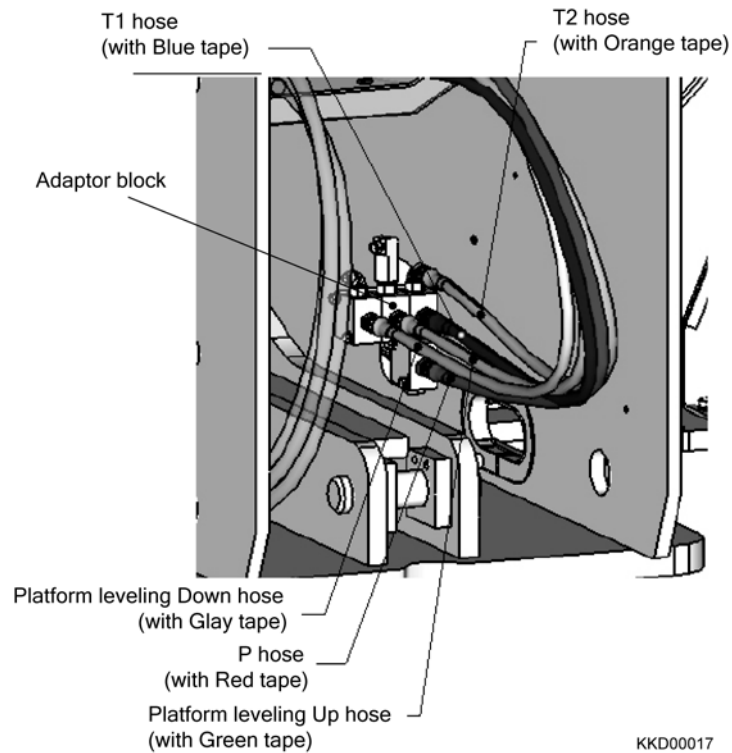
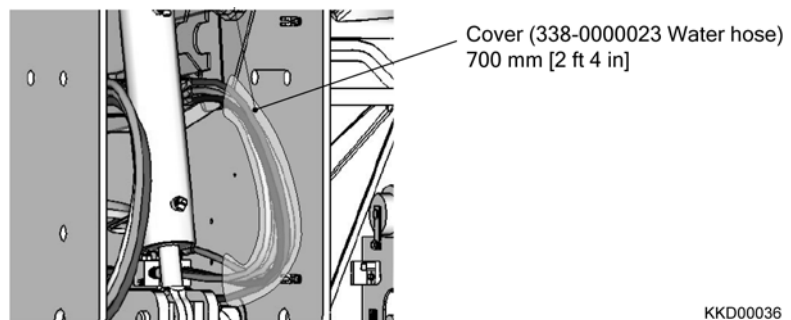

Fig. 2-42
Fig. 2-65
- 21) Tag, Disconnect the T1 hose, T2 hose, P hose, Platform leveling Up hose and Down hose from the adaptor block (Fig. 2-42), and then plug the fittings on the adaptor block and hose ends.
14) Insert the T1 hose, T2 hose, P hose, Platform leveling Up hose and Down hose to the cover (Fig. 2-65), and then connect them to the adaptor block. (Page. 2-20, Fig. 2-42)